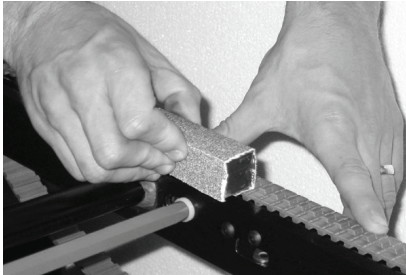
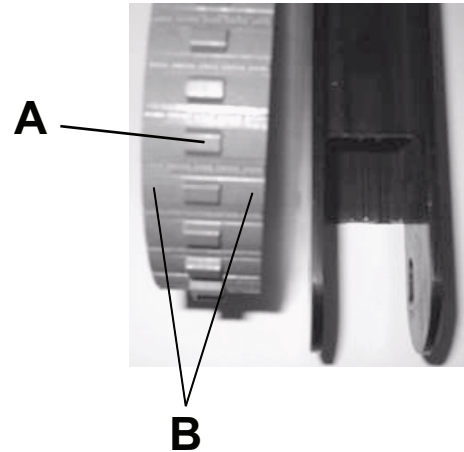

Figure 16 – Sand the wear surfaces
Figure 17 – Belt sanding surfaces
5. Using a sanding block with 50 grit sandpaper, sand both wear surfaces on the outside edges of each belt. The purpose is to roughen the surface of the belt just enough to remove the shiny spots caused by normal wear. Do not over sand the belts (Figure 16 and Figure 17).